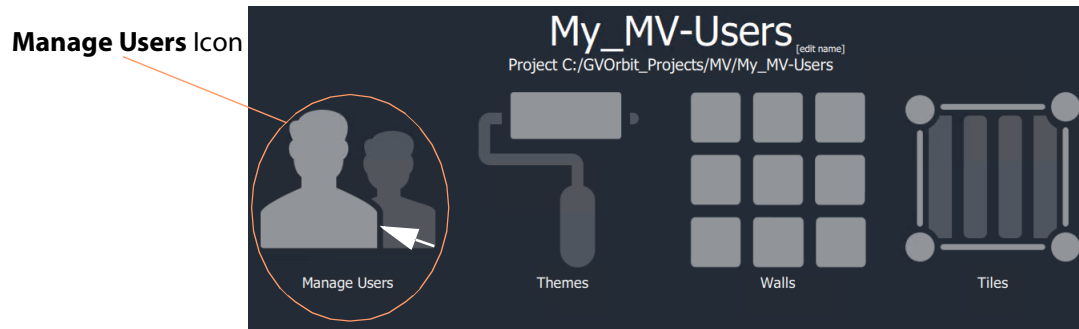

Fig. 4-2: Manage Users icon on Home Screen
The **Manage Users** tab is opened. See Figure 4-2 on page 162.
- 3 Click on the large **Manage Users** icon. See Figure 4-2.